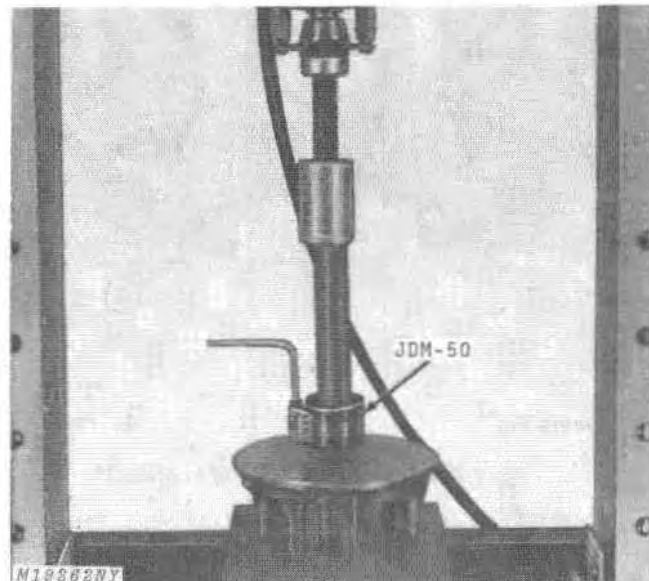

Fig. 12-Installing Movable Face Bushing
7. Use a press and JDM-50 Ring Compressor, Fig. 12, to install bushing flush with movable face.